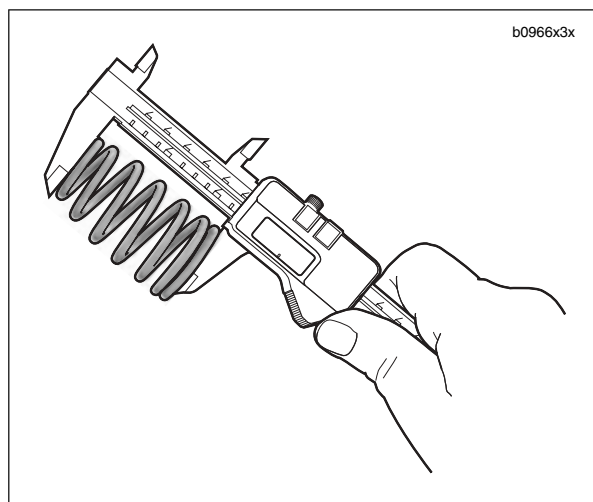

Figure 3-68. Checking Spring Free Length
2. See Figure 3-68. Check free length and compression force of each spring. Compare with 3.1 SPECIFICATIONS. If spring length is shorter than specification or if spring compression force is below specification, replace spring.